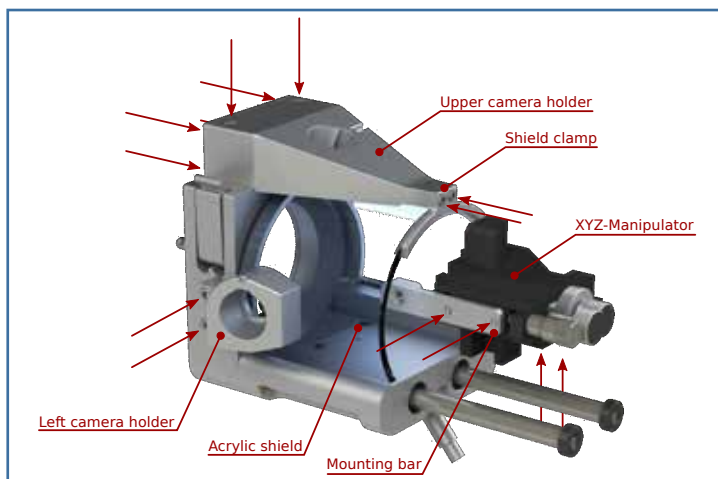

Fig. 6: Thermo Scientific ES072 source
- Remove the the shield clamp, the upper and left camera holder, the acrylic shield, the XYZ-manipulator and the attached mounting bar by loosening the screws marked in Fig. 6.